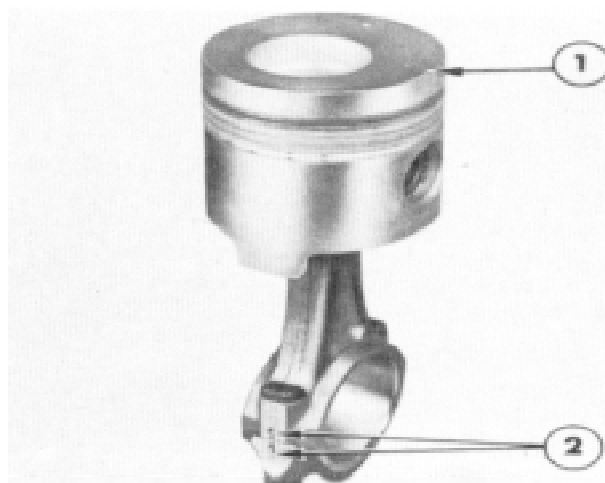

Figure 28
Position gap in line with piston notch mark. Refer Figure 28.
2. Assemble the piston to the connecting rod with the notch on the piston crown and the dimple on the connecting rod in line as shown in Figure 28. If a new piston is used the connecting rod piston pin bushing may have to be reamed or replaced to provide the specified pin-to-bushing clearance (when properly fitted the pin should rotate snugly in both the rod and piston). Before installing the piston in the block be sure the piston pin retainers (circlips) are fully seated in the piston grooves.
5. Having ensured correct liner clearance, refer to "Fitting Main Connecting rod bearings". Lubricate the crankpin and liners and install the bearing cap on the rod, with the number on the cap on the same side as the number on the rod. Figure 28, install new nuts and tighten to the specified torque.